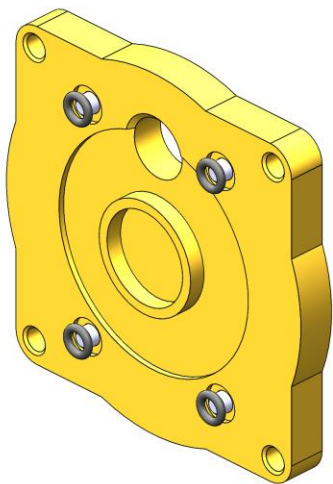

Figure 8: 7170 Maintenance Small Housing O-Rings Close-up
6. Remove and replace small housing O-rings (4x). Refer to Figure 8.